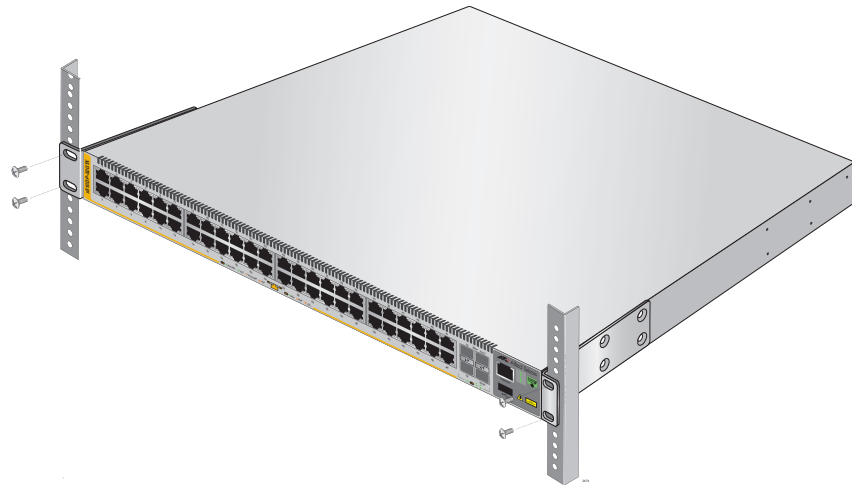
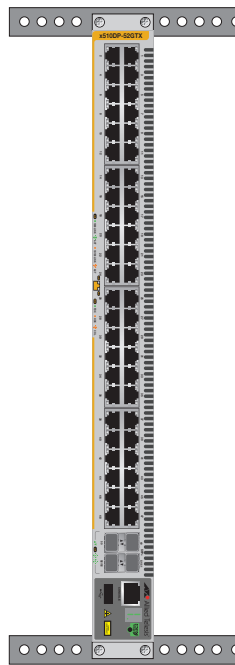

Figure 29. Mounting the Switch Horizontally in an Equipment Rack
Figure 30. Mounting the Switch Vertically in an Equipment Rack
5. While another person holds the switch in the equipment rack, secure it using standard equipment rack screws (not provided), as shown in Figure 29 for horizontal mounting and Figure 30 for vertical mounting.